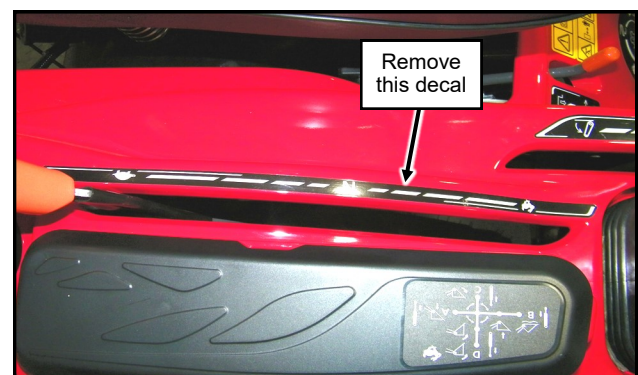

Fig. 4.1 (Remove and Reuse Decal)
- 4.1 Carefully remove the label for the gear speed lever shown in fig. 4.1 and adhere it to the 14" long brush (1" long bristles), oriented as shown in fig. 4.2 on the next page.